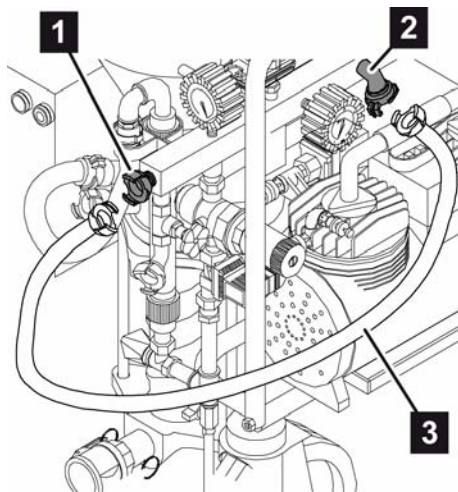

Fig. 54: Air hose
8. Remove air hose (Fig. 54/3) on the sprayer.
9. Fasten the hose on the water inlet (Fig. 54/1) and on the outlet of the air fitting (Fig. 54/2).